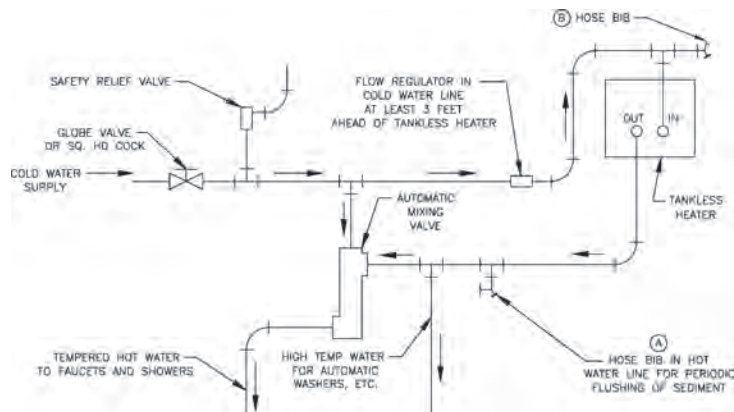

Figure 11: Schematic Tankless Heater Piping
H. CONNECT TANKLESS HEATER PIPING AS SHOWN IN Figure 11. See Table 2 for Tankless Heater Ratings.